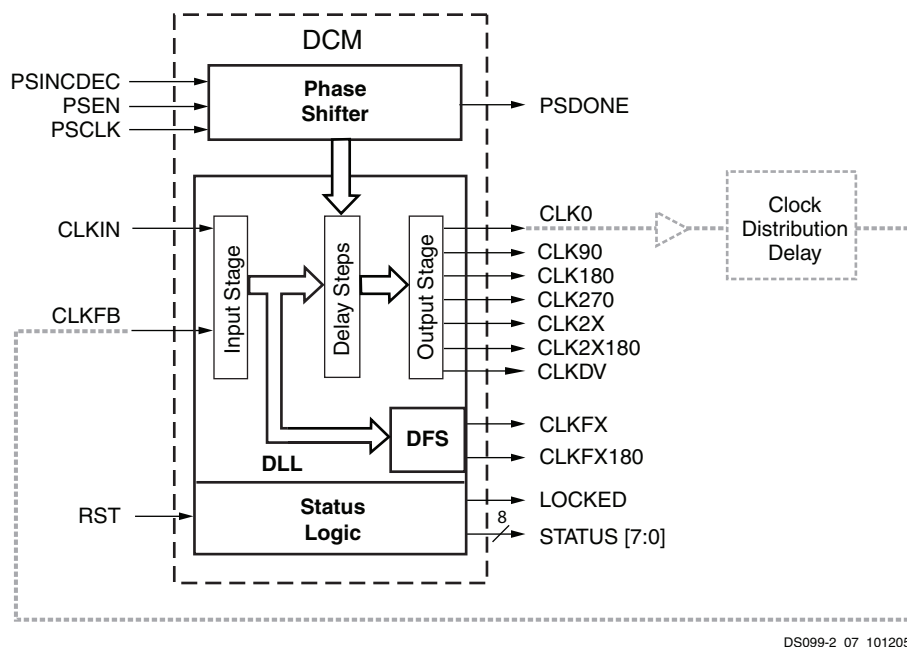

Figure 40: DCM Functional Blocks and Associated Signals
Although a single design primitive, the DCM consists of four interrelated functional units: the Delay-Locked Loop (DLL), the Digital Frequency Synthesizer (DFS), the Phase Shifter (PS), and the Status Logic. Each component has its associated signals, as shown in Figure 40.